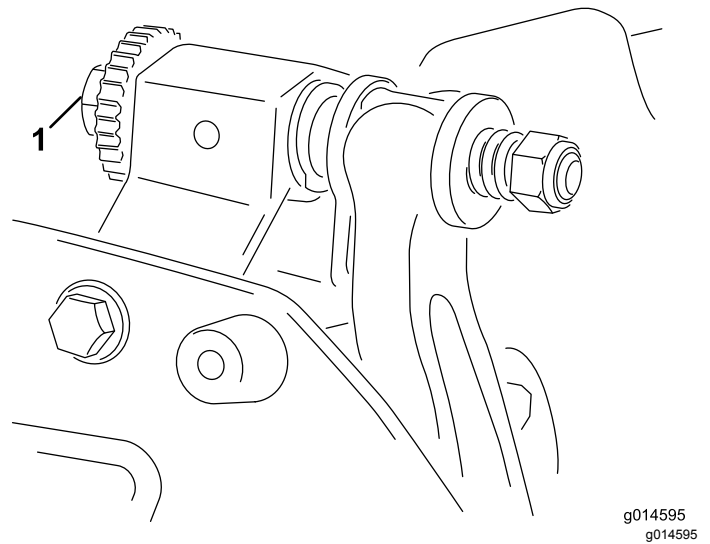

Figure 9
- A. Turn the bedbar adjusting screws clockwise (Figure 9), 1 click at a time, until you feel and hear light contact.
6. Turn the right bedbar adjusting screw (Figure 9) until you feel light pressure on the shim when sliding it side-to-side. Remove the shim.